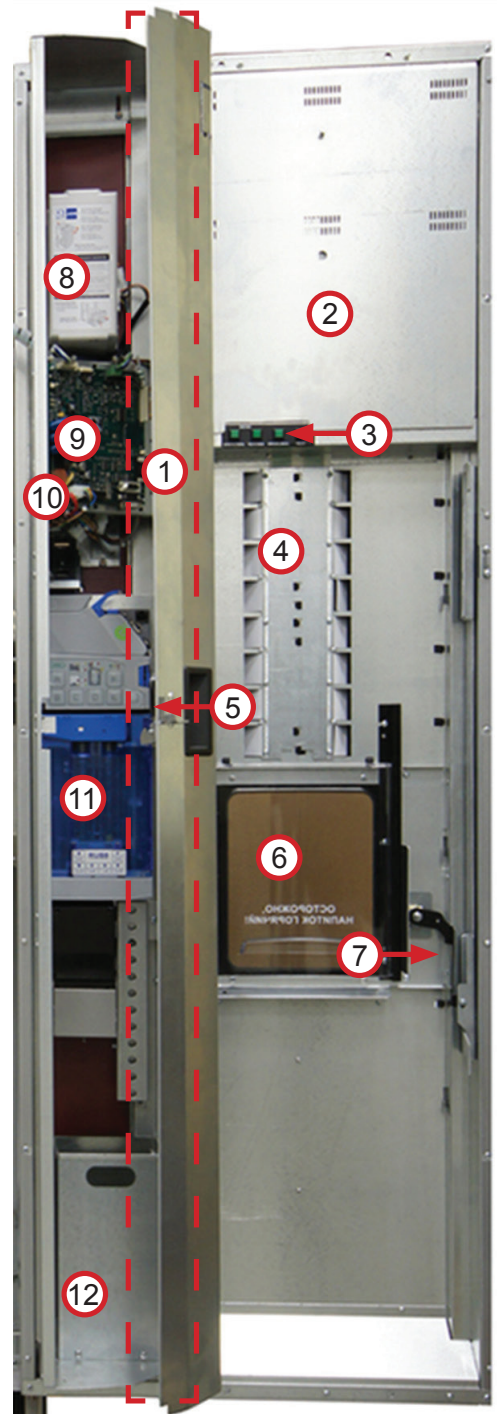

figure 18
16. Protective housing for power supply (see figure 18).